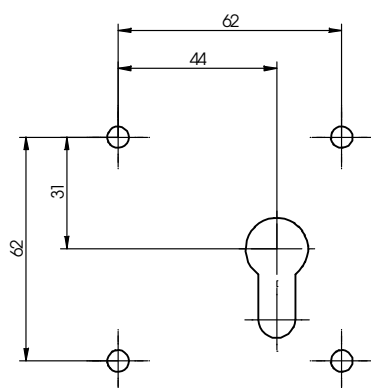

Fig. 1: Fastening hole pattern
- For installation and adjustment of the lock on the door, make sure that the locking cylinder can be inserted into the lock without having to apply force and without jamming. This can be achieved by mounting the lock according to the following pattern of mounting holes (Fig. 1). For further lock dimensions please refer to the Kaba Mauer catalogue sheet.